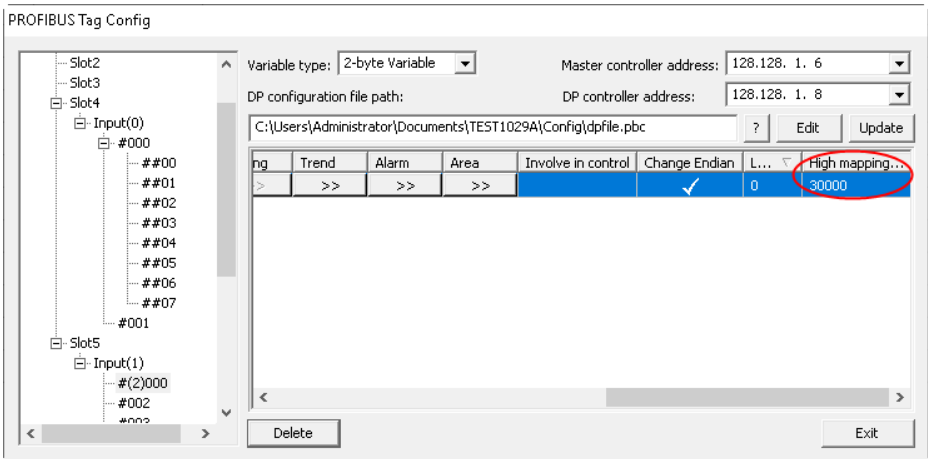

Figure 4-40 Low mapping limit of DP float and high mapping limit of DP float
- “Low mapping limit of DP float” and “High mapping Limit of DP float”: refers to transfer 2-byte variable to a SFLOAT number, the high/ low limits should be set. PROFIBUS-DP master interface module transfers the code to SFLOAT number according to the high/ low limits, and transmits to the operation node and other controllers (if needs to be involved in control). As shown in Figure 4-40.